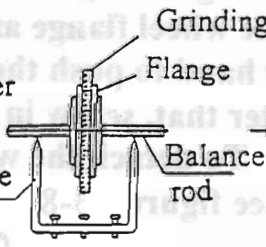

Fig 13-2
2. Rotate the grinding wheel on the balancing stand and mark its lowermost position (heaviest area) with a 'S' using chalk (see figure 13-2, 13-3).